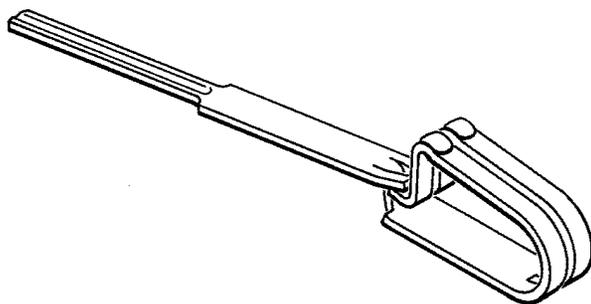

Fig. 1 — Replacement Terminal
1.02 These procedures apply to the 911A-type connector. The P-48C740 terminal, which is used in new apparatus and for replacement purposes, is illustrated in Figure 1.